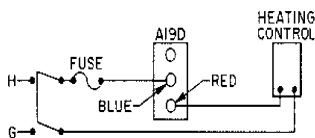

Fig. 4 -- Wiring the A19D as a high temperature cutout control.
terminal common; red to blue circuit opens on temperature rise, red to yellow circuit closes on temperature rise. See typical wiring diagrams in Figs. 4 and 5. Use copper conductors only.
1. On high temperature cutout control applications, always wire the "hot" line to the A19D cutout control in accordance with Fig. 4.